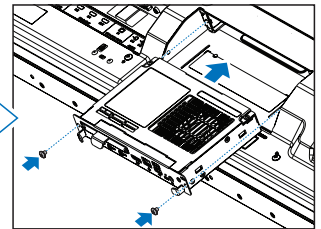

Figure 4
4. Insert the Option Board into the monitor and fix it in place with the removed screws (**Figure 4**). (Recommended Fasten Force: 139 - 189N•cm).